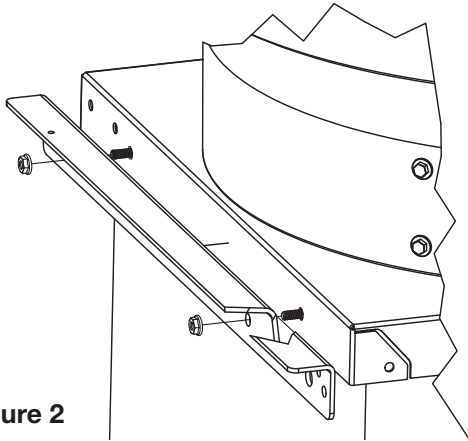

Figure 2
2. Fasten the upper brackets to each side of the curb cap using two 5/16" - 18 x 3/4" weld studs and two flange nuts per bracket. It may help to place the fan on top of the roof curb offset 45 degrees as to how it should sit, this will allow for easier access to the curb cap holes. See Figure 2.